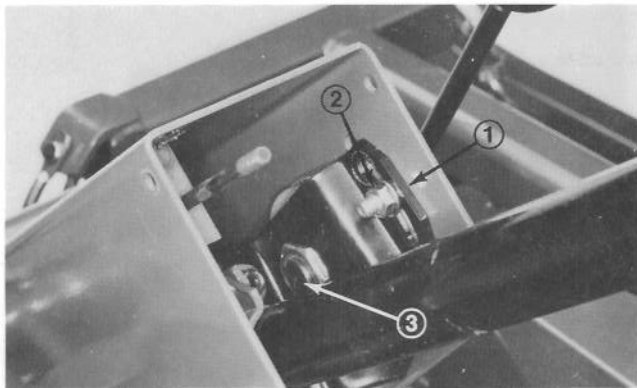

Figure 46
- 1. Remove knob from parking brake and self tapping screws from steering column cover. Slide cover up steering shaft to expose pivot bracket (Fig. 46).
- 2. Loosen small nut, rotate pivot bracket until it tightens large nut below (Fig. 46). Retighten small nut.